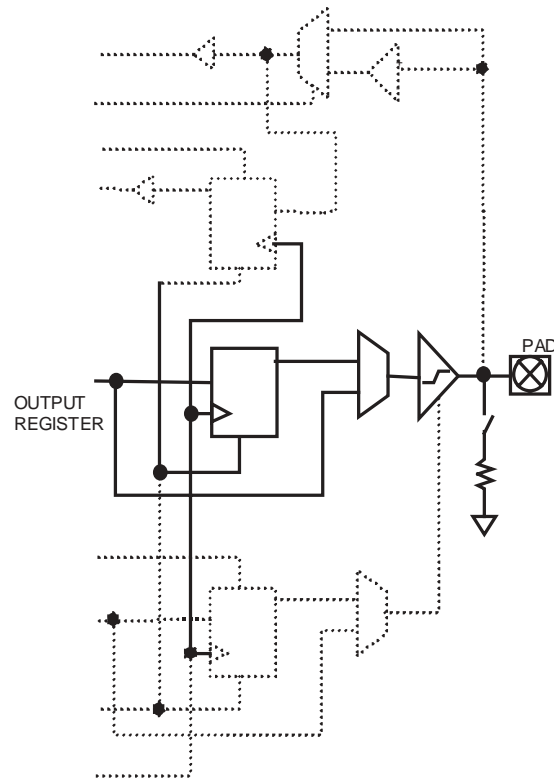
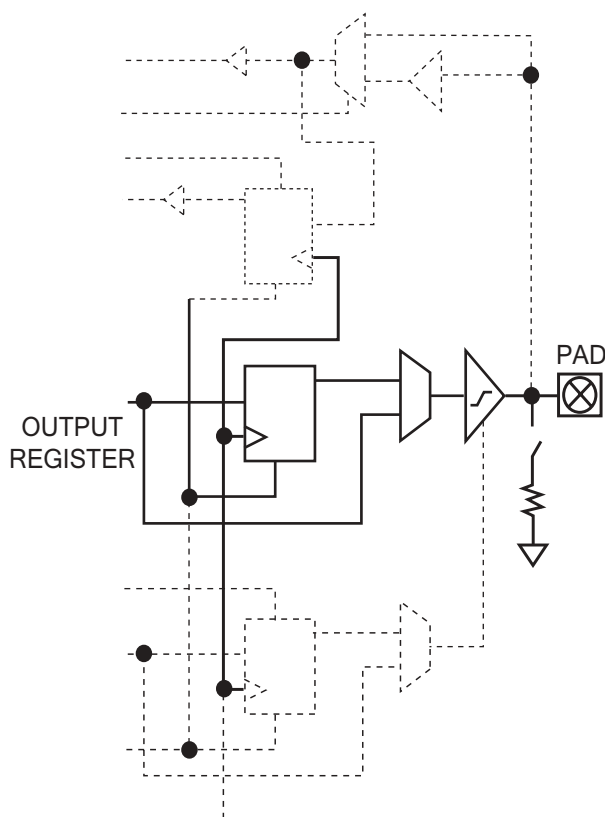

Figure 23: Eclipse-II Cell I/O
Figure 26: Eclipse-II Output Register Cell
- a. The data provided in **Table 8** and **Table 9** are JEDEC and PCI Specifications. QuickLogic devices either meet or exceed these requirements. For data specific to QuickLogic I/Os, see preceding **Table 20** through **Table 24**, **Figure 7** through **Figure 9**, and **Figure 23** through **Figure 26**.